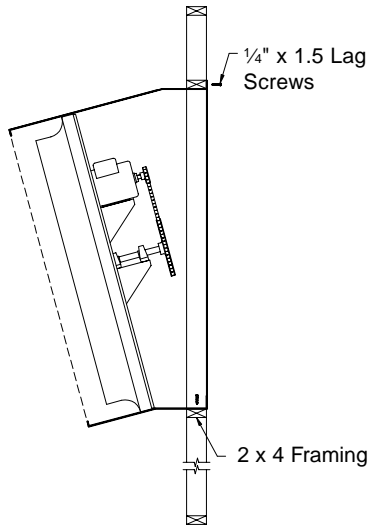

Figure 2
- 2) Insert fan into the framed opening from the inside and fasten with 1/4" x 1.5 Lag Screws (provided). Install flashing around opening tight to fan and caulk around fan to seal. **See Figure 2.** Proceed to Electrical Wiring Section before installing the shutter.